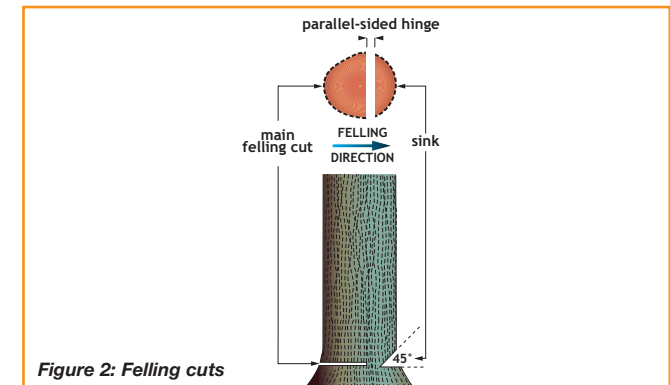

Figure 2: Felling cuts
- ❑ 15 Make the main felling cut at or slightly above the level of the bottom sink cut (see *Figure 2*). Use appropriate aid tools or techniques where there is a possibility of the tree moving and trapping the saw.